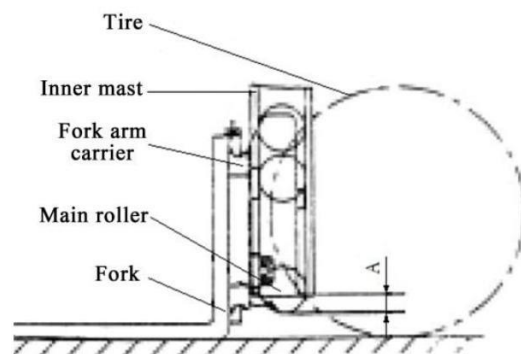

Fig. 6-5
(1) Park the car on flat ground and make the mast vertical.
(2) Make the fork bottom surface touch the ground, and adjust the adjusting nut of the upper end joint of the chain in such way that there is a distance A between the main roller and the lower end surface of mast channel steel, as shown in Fig. 6-5.